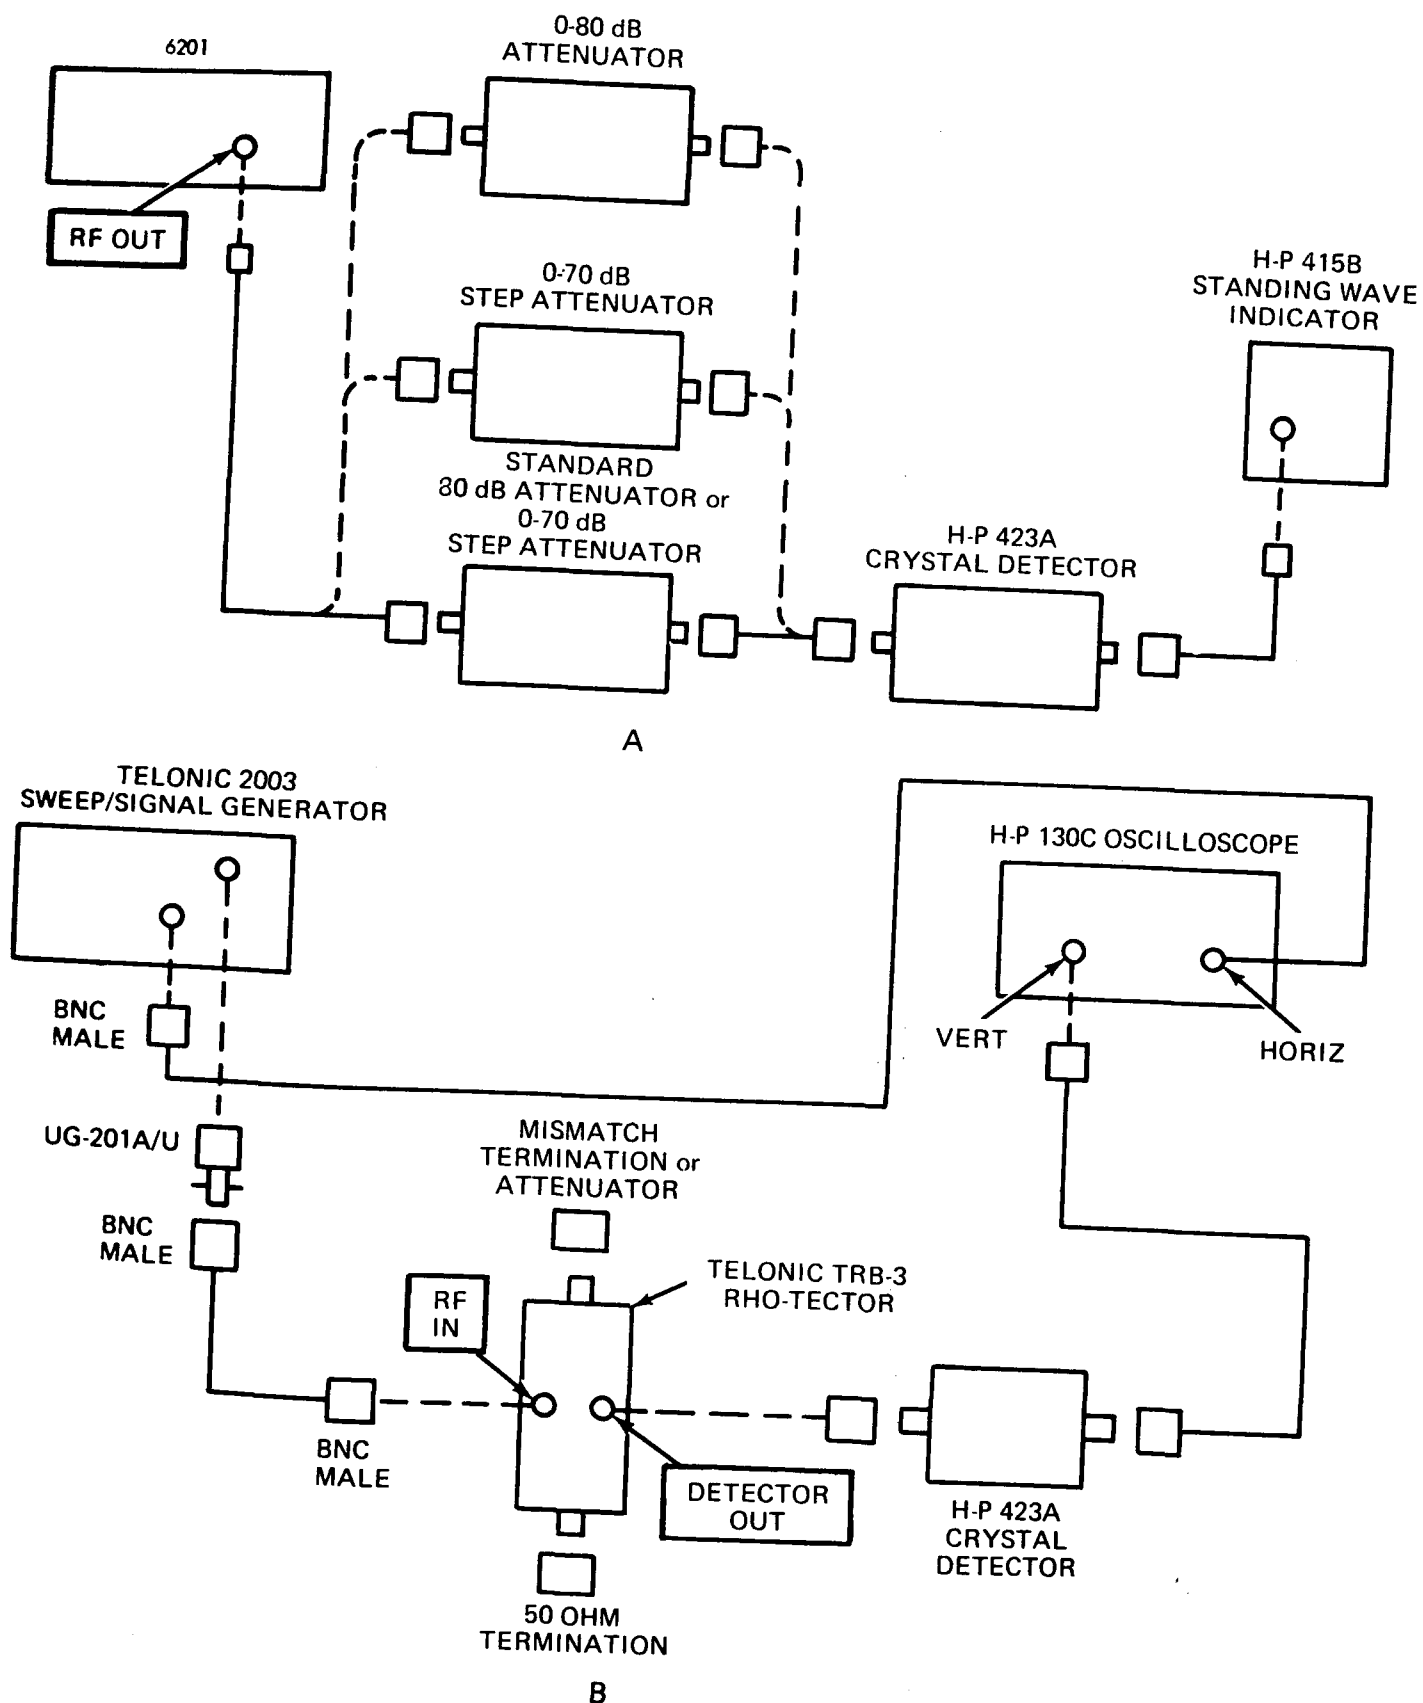

Figure 4-10. Equipment Setup for 0-80 dB and 0-70 dB Step Attenuator Checkout
- f. Set the dBm switch to +10/1.0V position and connect the 80 dB attenuator under test in the test configuration of Figure 4-10. Note the reading (insertion loss) on the SWR indicator. It should not differ by more than 0.1 dB from the reference.